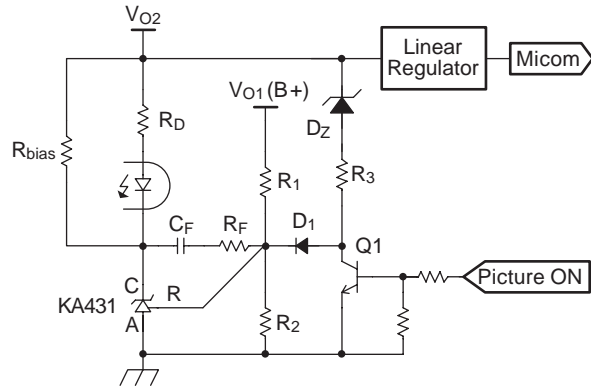

Figure 15. Typical Feedback Circuit to Drop Output Voltage in Standby Mode
6. Burst Operation: In order to minimize the power consumption in the standby mode, the FSCQ-Series employs burst operation. Once FSCQ-Series enters into the burst mode, FSCQ-Series allows all output voltages and effective switching frequency to be reduced. Figure 15 shows the typical feedback circuit for C-TV applications. In normal operation, the picture on signal is applied and the transistor Q₁ is turned on, which decouples R₃, D_z and D₁ from the feedback network. Therefore, only V_{o1} is regulated by the feedback circuit in normal operation and determined by R₁ and R₂ as: